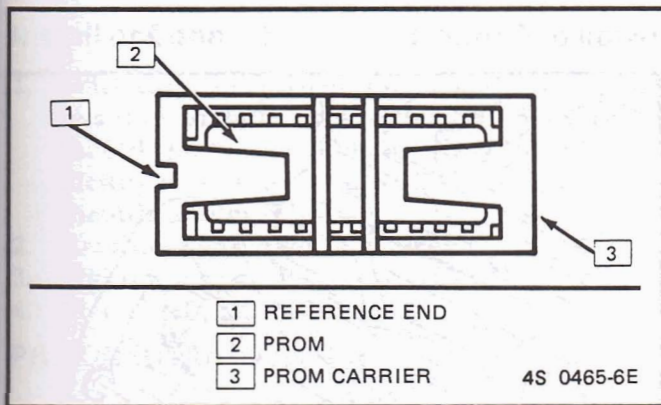

Figure 14 PROM in PROM Carrier
2. For correct reference of PROM in carrier, Figure 14.